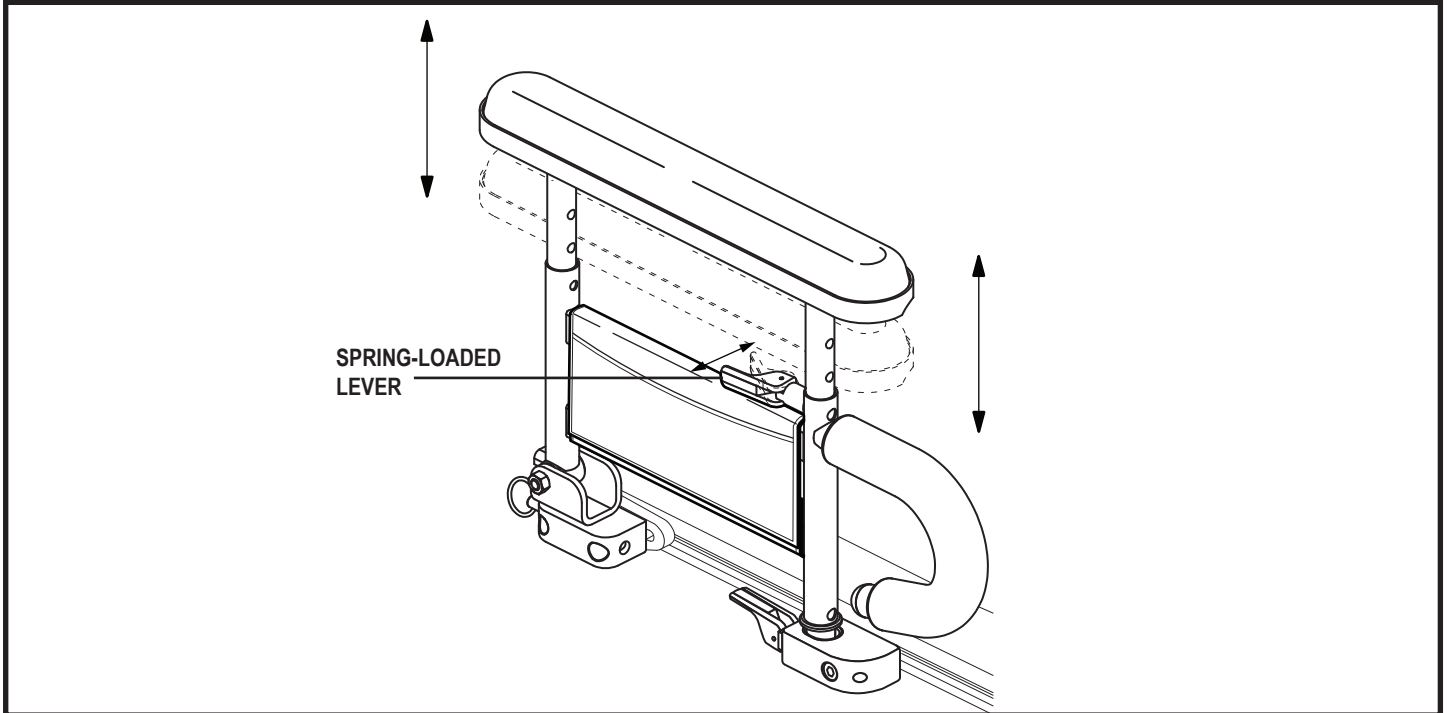

Figure 30. Two Post Height Adjustable Flip-Up Armrest Height Adjustment
1. Push the spring-loaded lever inward. **See figure 30.**